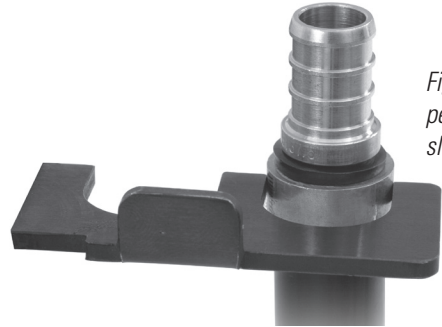

Figure 2 – Hold gauge perpendicular to tube and slide over ring.
1. Hold gauge perpendicular to the axis of the tube (see Figure 2). Try to slide the “NO-GO” slot over the crimped ring in at least two places (but not at tool parting line). If the gauge goes over the ring, the crimp is too small and should be cut out and discarded. Tool calibration should be checked as described in Crimp Tool Adjustment section. (see Figure 3 and 4). If gauge does not slide over the crimped ring proceed to step 2.